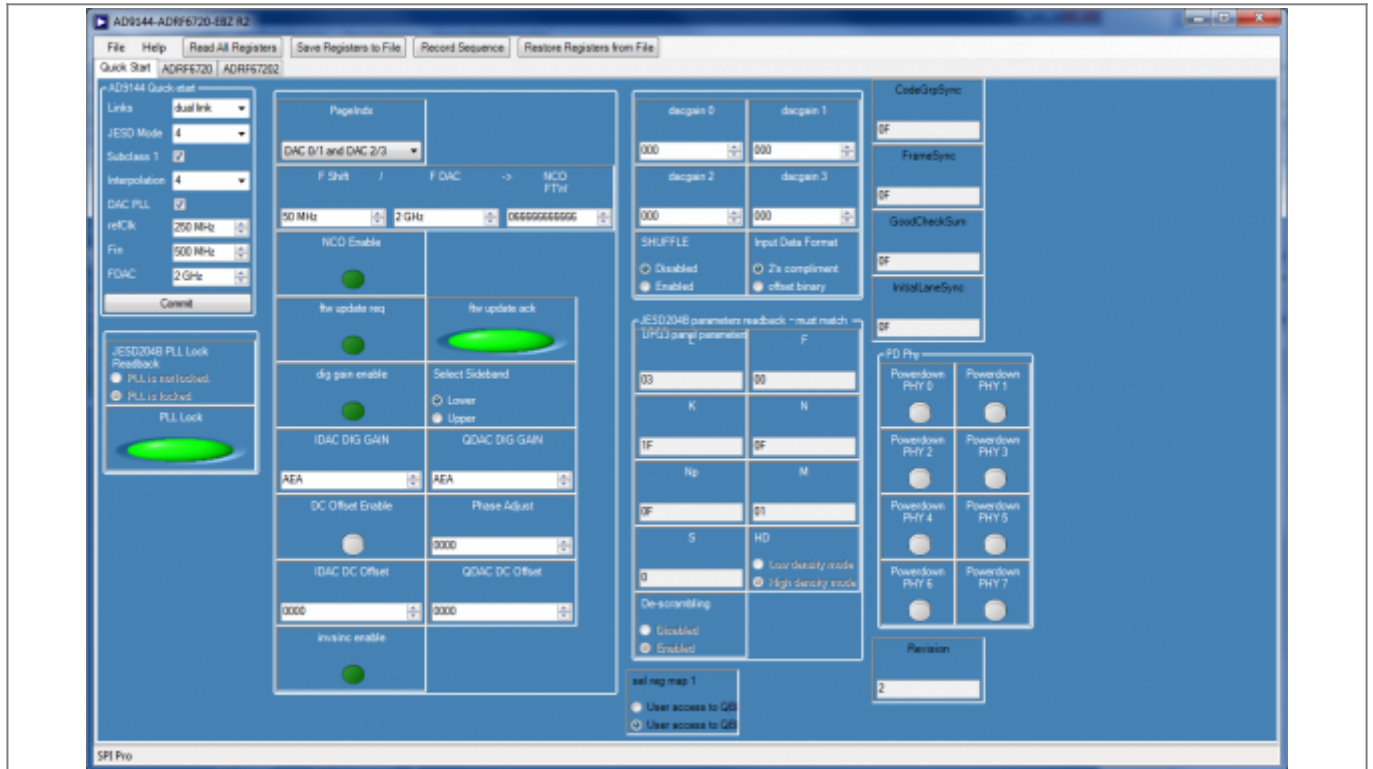
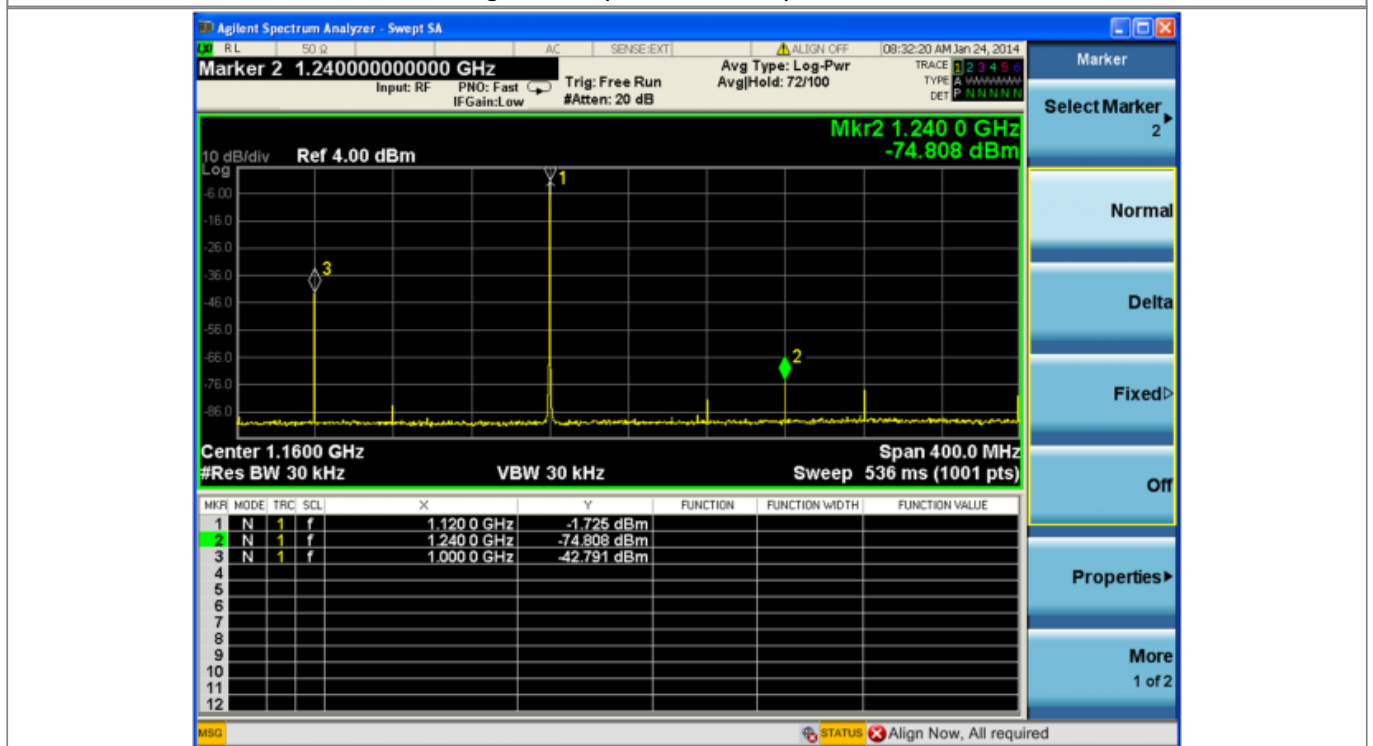

Figure 7. Spi Panel set up for NCO
Figure 8. AD9144-ADRF6720 Eval Board output Spectrum with NCO used
1. In the AD9144 customer SPI software go to the Quick Start tab. Set the FDAC to 2GHz and selecting the shift frequency, for this example we will use 50MHz. Then click the NCO Enable button, the NOC FTW will change from 00000 to 066666. Next click the ftw update req button, the ftw update light should turn bright green at this point. See Figure 7. The analyzer spectrum shows the tone at 120MHz from the Lo frequency shown in Figure 8.